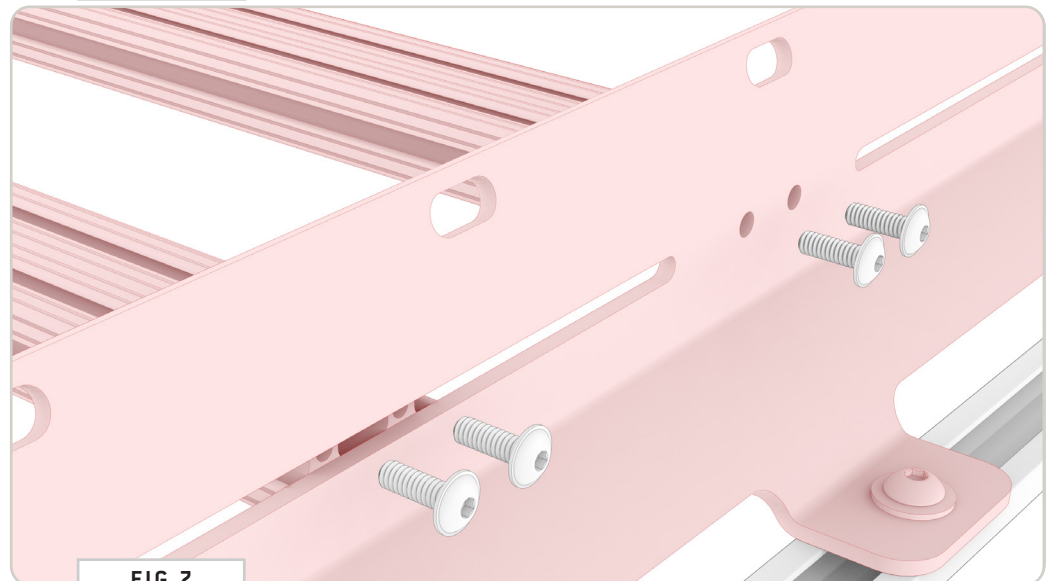

FIG 7
**NOTE -** Keep in mind the layout of your roof top array (solar panels, fans, tents, etc.) You can mount crossbars in the set pair of holes (**FIG 7**), or you can place them in the slots which provides you more freedom of layout.